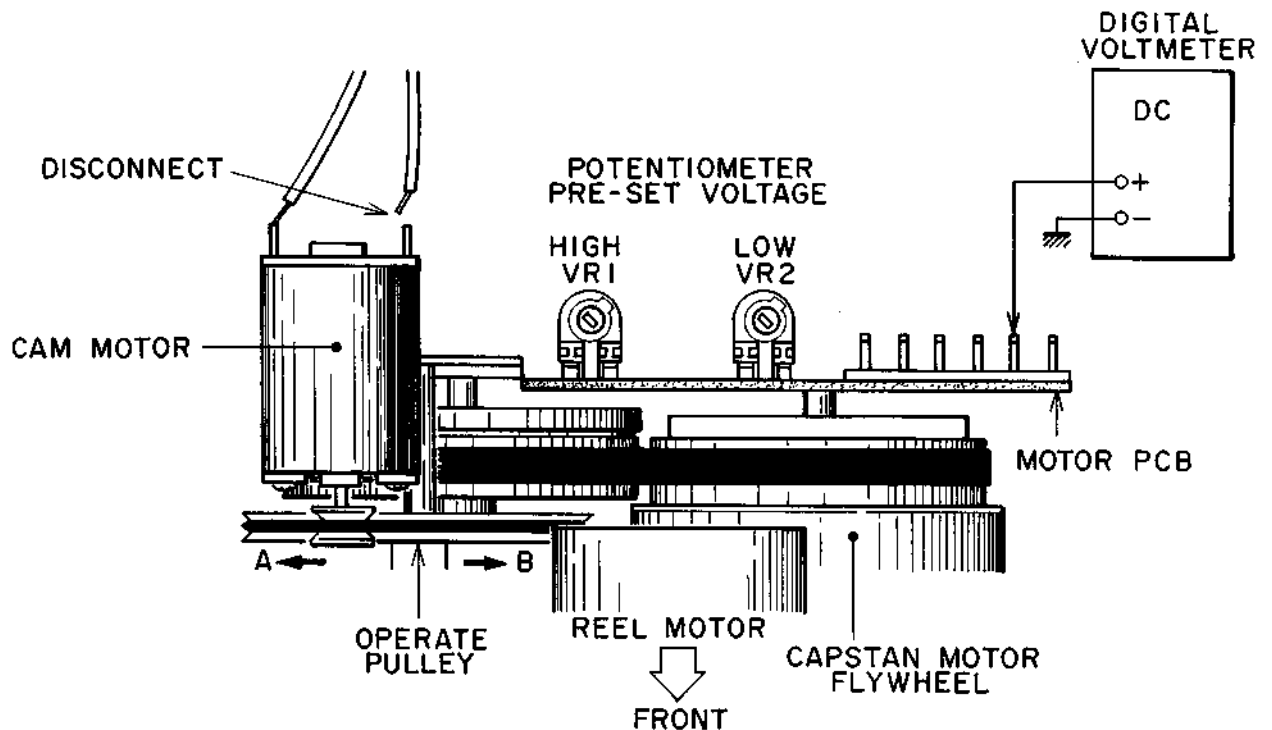

Fig. 2-11
3. POTENTIOMETER PRESET VOLTAGE ADJUSTMENT (Refer to Fig. 2-11, 12)
- b. Connect the digital voltmeter as shown in Fig. 2-11.
- c. With power ON, adjust VR2 so that the voltage reading will be 0.78V (DC).
- b. With power ON, adjust VR1 so that the voltage reading will be 6.73V (DC).